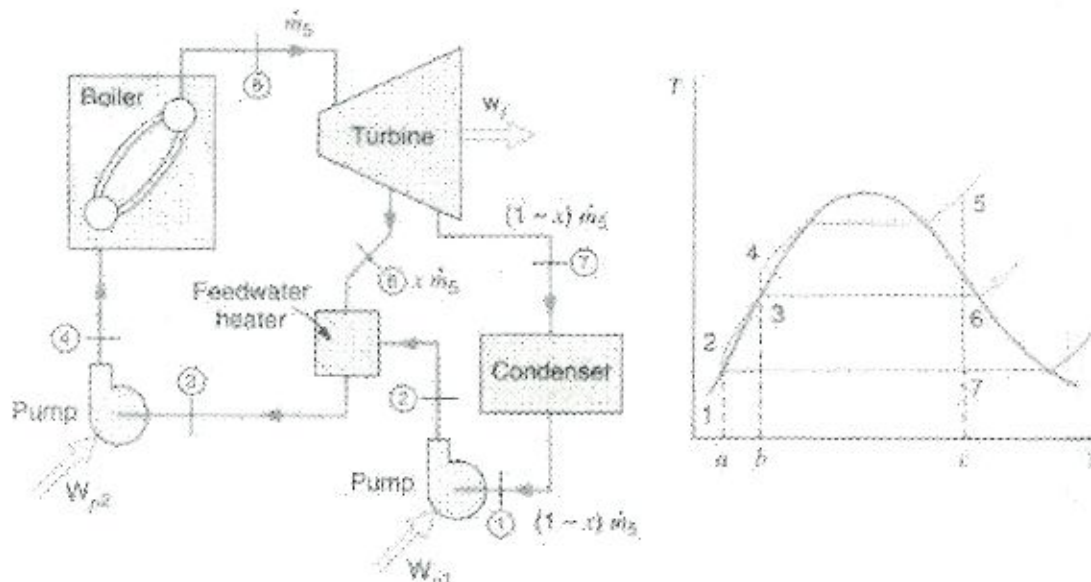

Figure Q1
- b. Consider a regenerative cycle using steam as the working fluid shown in Figure Q1. Steam leaves the boiler and enters the turbine at 4 MPa, 400 °C. After expansion to 400 kPa, some of the steam is extracted from the turbine for the purpose of heating the feed-water in an open feed-water heater. The pressure in the feed-water heater is 400 kPa, and the water leaving it is saturated liquid at 400 kPa. The steam not extracted expands to 10 kPa.